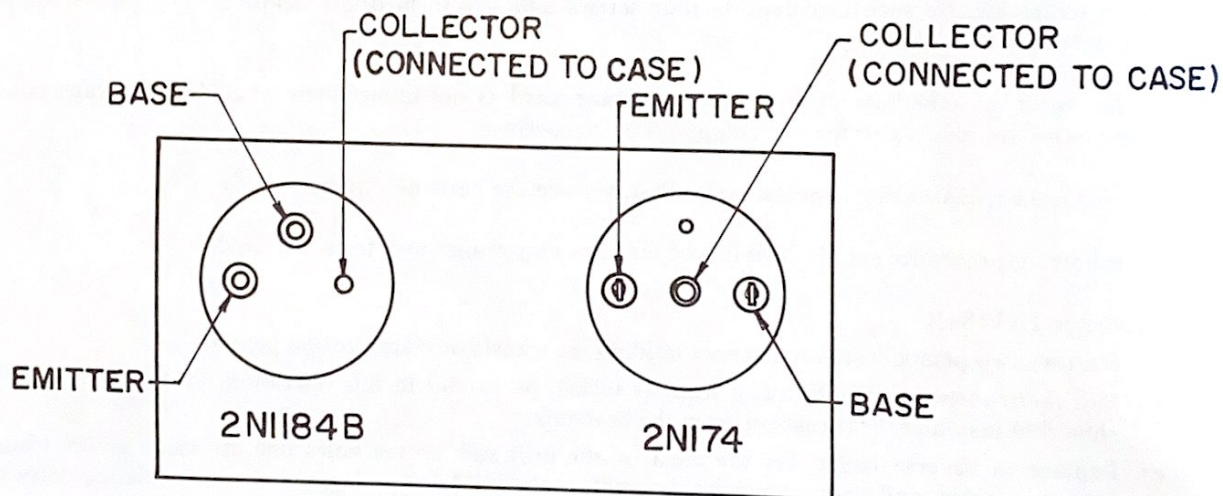

FIG. 4-1 TRANSISTOR
- (a) Unsolder two wires, one from the emitter terminal and one from the base terminal, see Figure 4-1, for the location of the terminals on the transistor.